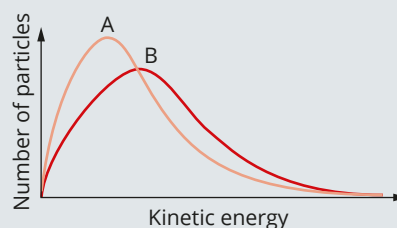

FIGURE 1.3.1 Energy profiles at 40°C and 60°C
- a Figure 1.3.1 shows the distribution of energies of particles in a substance at two different temperatures, 40°C and 60°C . Indicate the temperatures represented by graphs A and B.